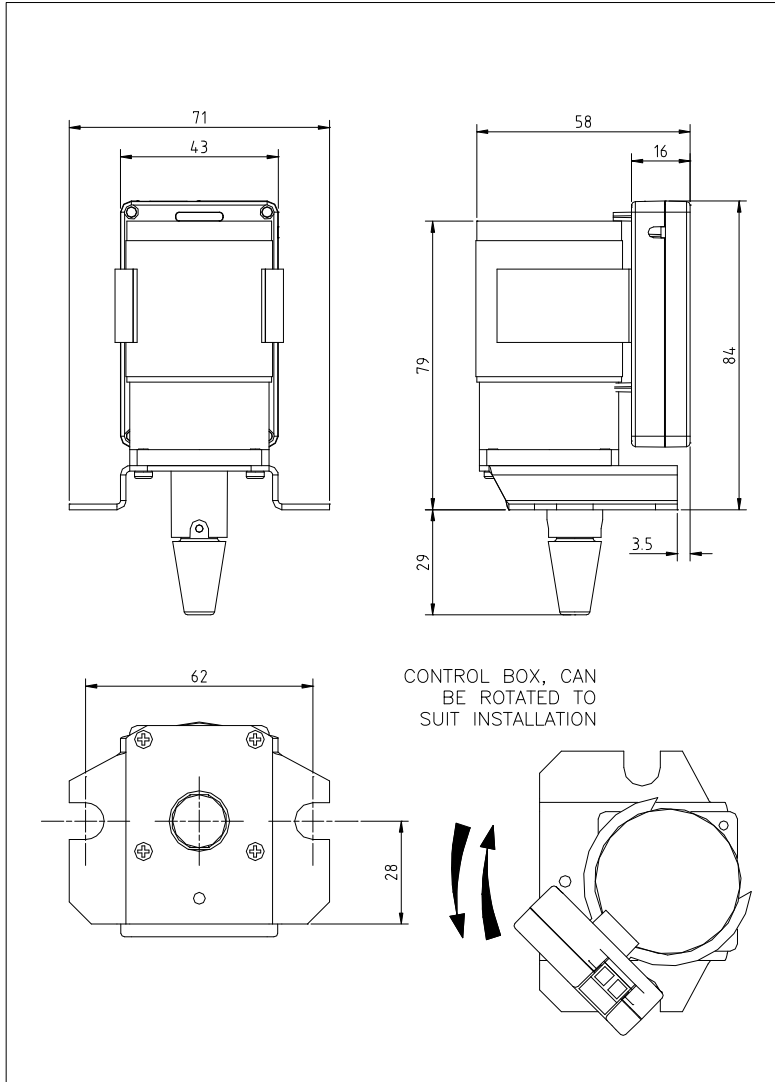

FIGURE 1
7.1 PREPARATION AND INSTALLATION (see figure 1)